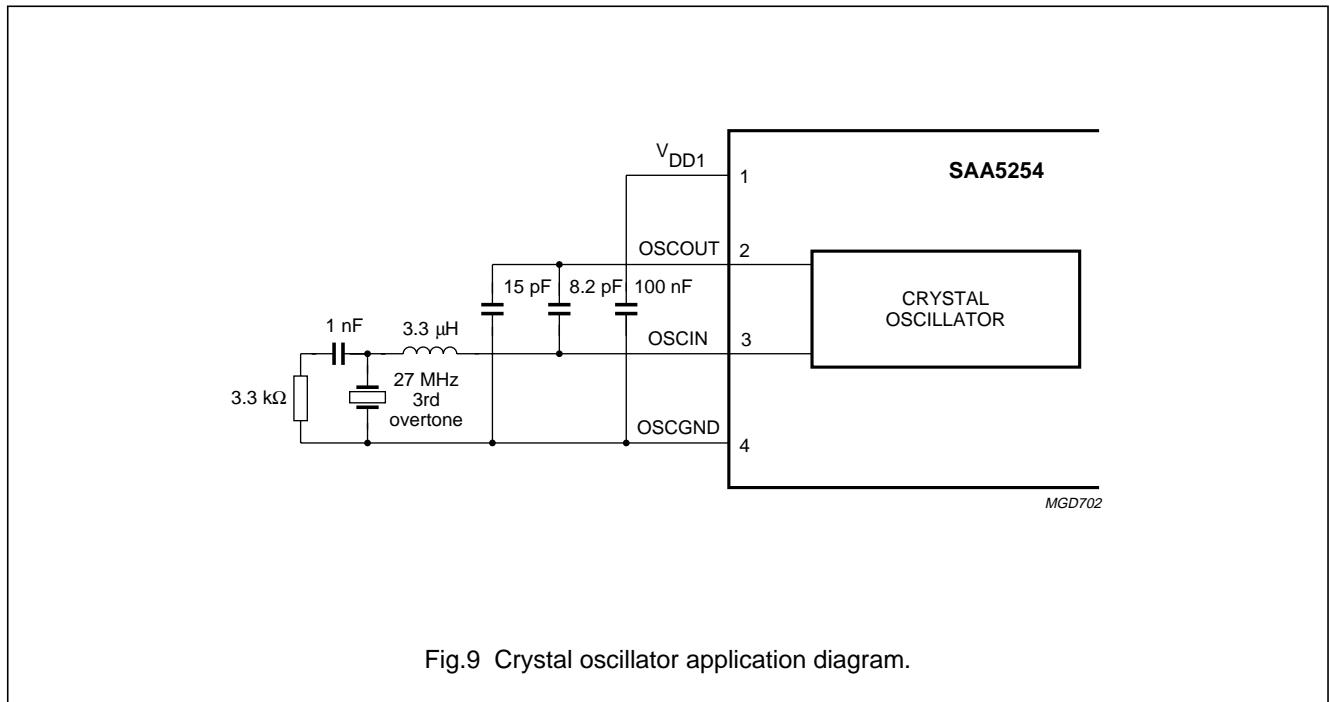

Fig.9 Crystal oscillator application diagram.
The crystal is a conventional 2-pin design operating at 27 MHz. It is capable of oscillating with both fundamental and third overtone mode crystals. External components should be used to suppress the fundamental output of the third overtone, as shown in Fig.9. The crystal characteristics are given in Table 11.
**Table 11** Crystal characteristics (see Fig.9)